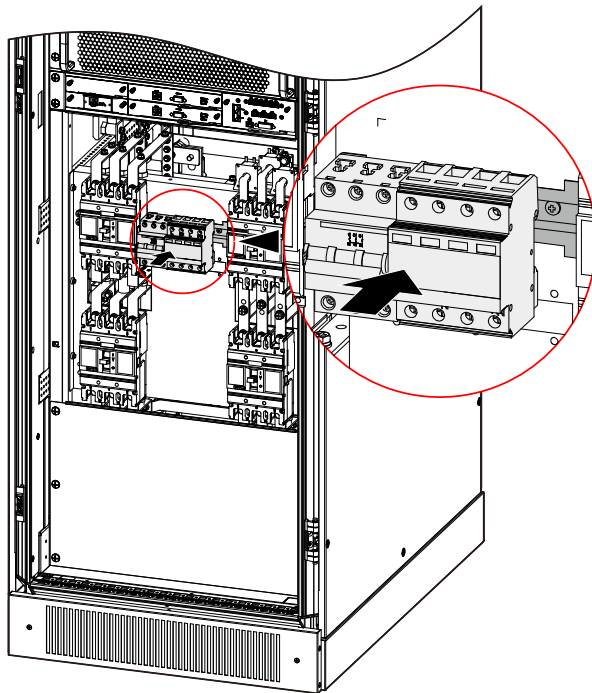

Figure3-20 Install the SPD and surge protection switch
Step 4 Install the SPD and surge protection switch in the fixed plate, as shown in Figure3-20.